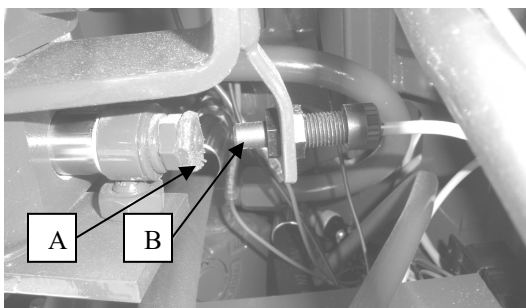
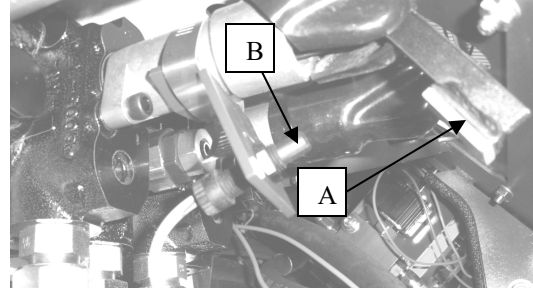

Figure 4—Magnet (A) and reed switch (B) on BR models.
Figure 5—Magnet (A) and reed switch (B) on SR models.
5. The remote run/hold is controlled by a magnetic reed switch that is triggered by a small magnet attached to the selector valve spool on BR models or a lever on SR models. See **Figure 4** (BR models) or **Figure 5** (SR models).